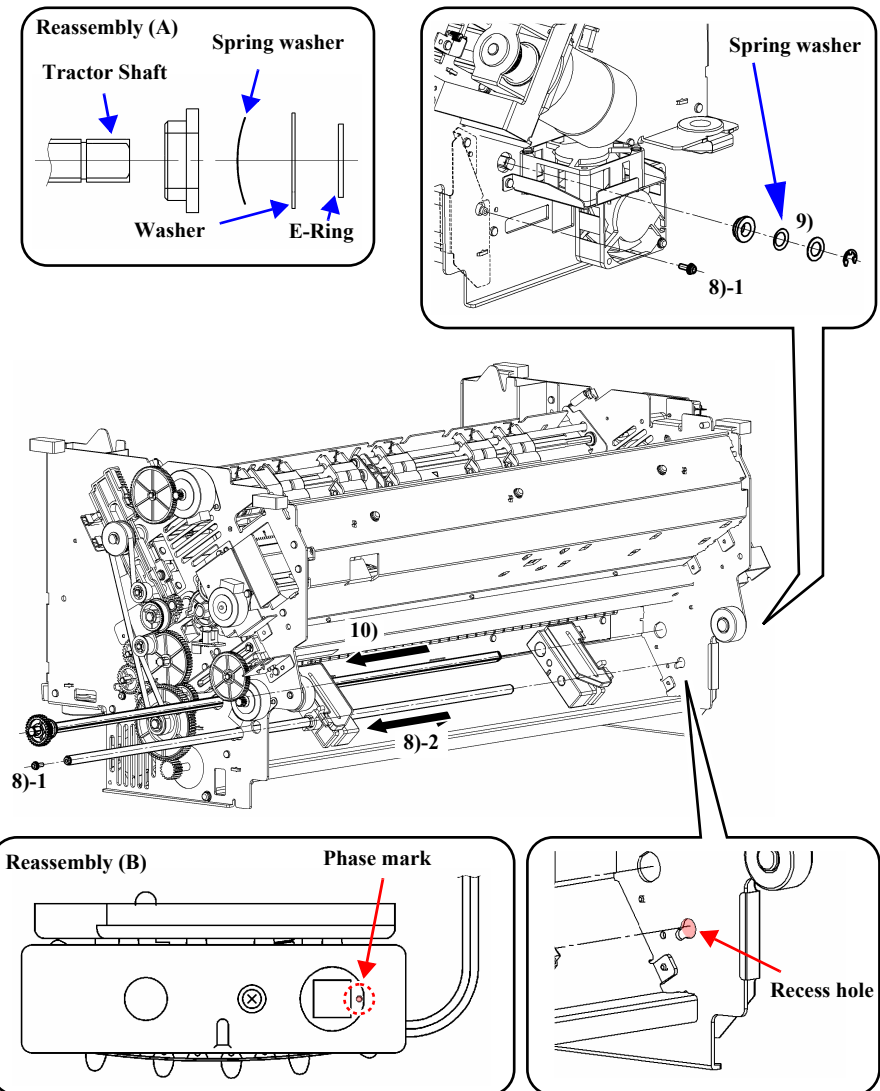

Figure 4-50. TRACTOR FL UNIT/TRACTOR FR UNIT Removal (2)
When installing the Tractor shaft, attach the spring washer in the direction shown in Figure 4-50, Reassembly (A). Place the Spring Washer with the bow facing the center of the tractor shaft.
The TRACTOR FL UNIT and TRACTOR FR UNIT have phases that must be matched. Align the phase marks of the TRACTOR FL UNIT and TRACTOR FR UNIT before installing the Tractor shaft. See Figure 4-50, Reassembly (B).